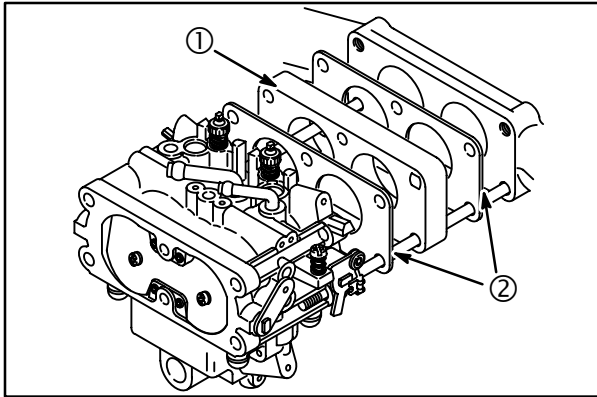

Fig. 24
1. Assemble gaskets (2) and spacer (1) to intake manifold.
- Assemble carburetor onto mounting studs, **Fig. 24**.